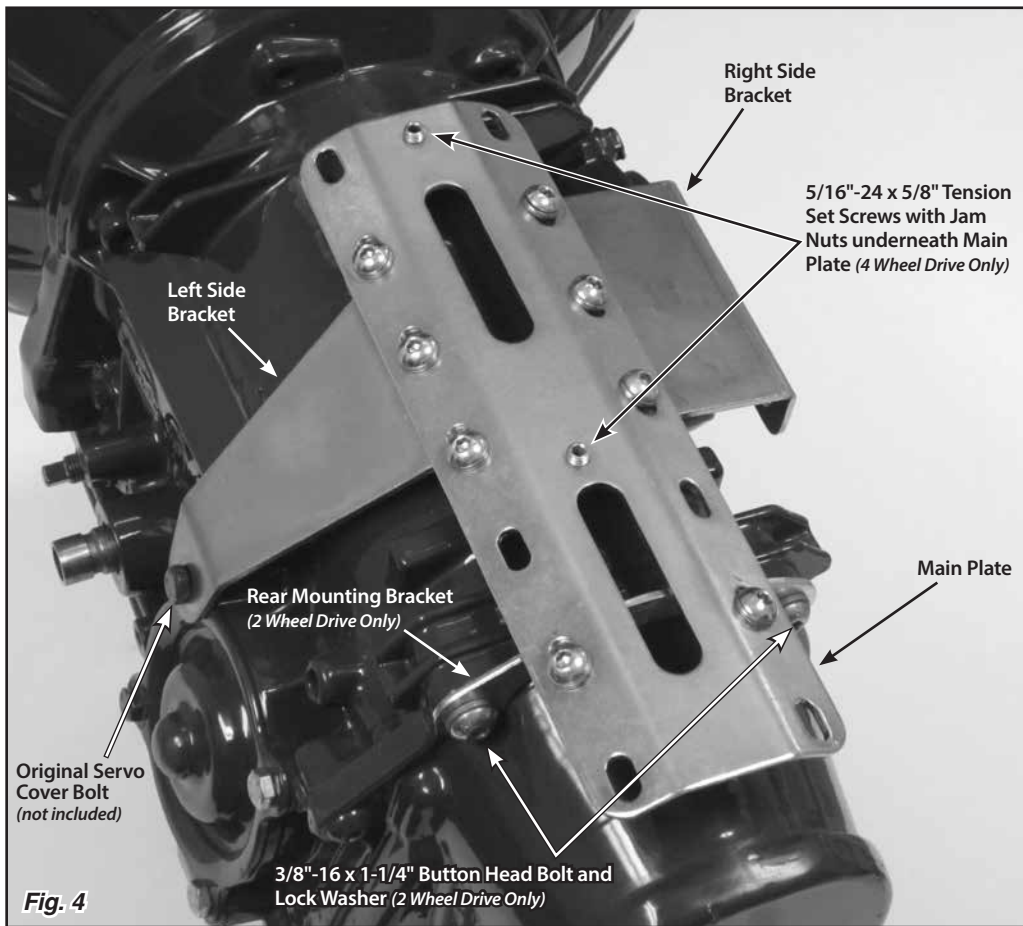

Fig. 4
**Step 6:** Set the mounting bracket assembly into place on top of the transmission. **Fig. 4** Attach the mounting bracket assembly to the transmission by first re-installing the left and right servo cover bolts you removed, through the side brackets and into the transmission.
**Step 7: (All)** Tighten all of the bolts on the left, right, and rear (2 wheel drive only) mounting brackets. **Fig. 4**